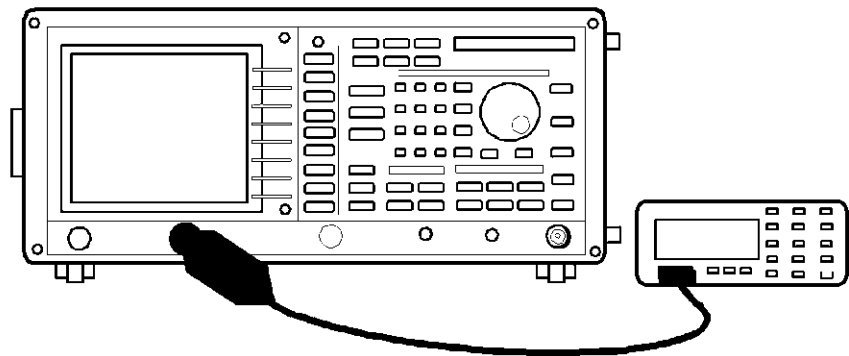

Figure 5-23 Setup of Output Level Flatness Test
3. Connect the power sensor as shown Figure 5-23.